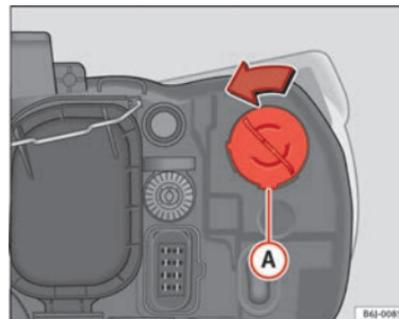

Fig. 155 Turn signal
- Rotate the bulb holder ⇒ fig. 155 **A** to the left and pull.